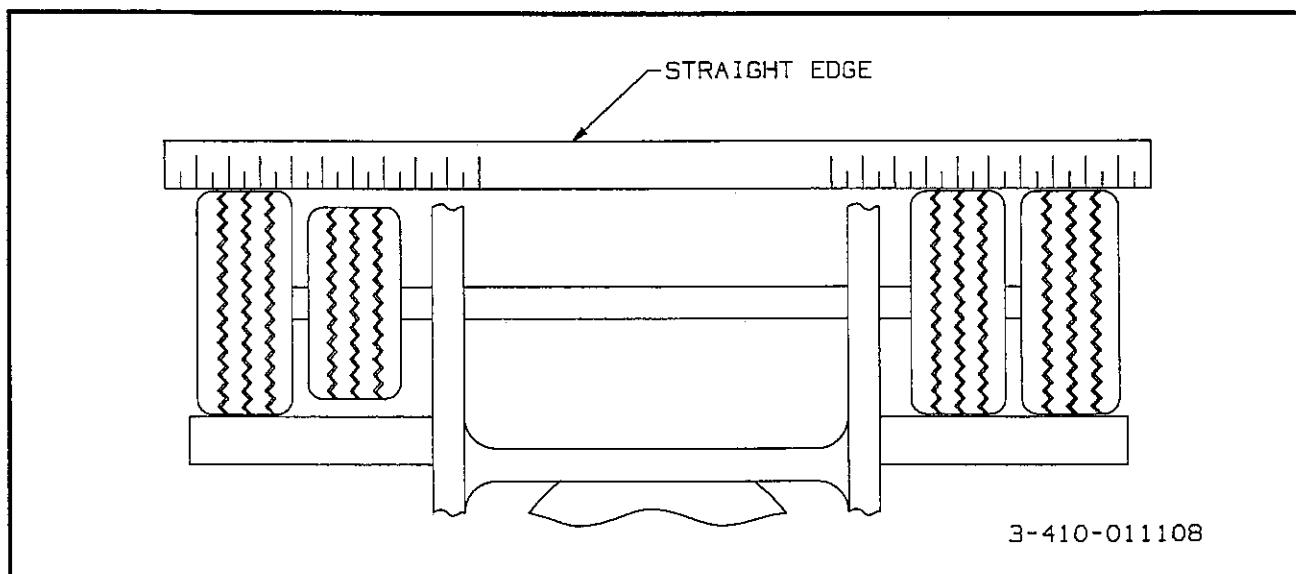

Figure 6-5 Straight Edge Method
a. Jack trailer up until the wheels are off of the ground. Hold a straight edge against the tires of both ends of an axle. A gap at one tire indicates a smaller tire. A maximum of  $\frac{1}{8}$ " gap is allowed (See Figure 6-5).